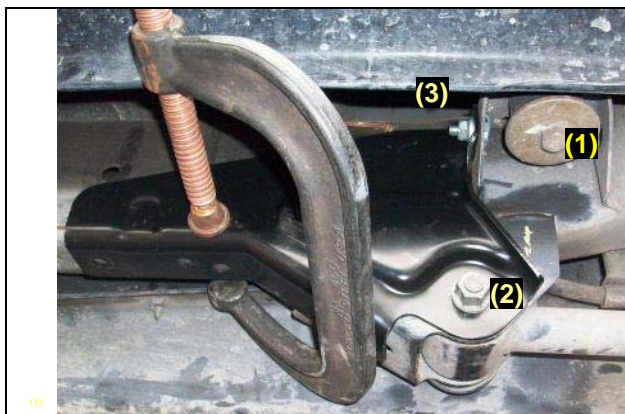

Figure 15: Driver side temporary installation (1998-
1. Remove the Rear Trailing Link Front Mount mounting nut from both driver and passenger side. See Figure 15.
2. Remove lower half of body mount # 4 from both driver and passenger side. See Figures 15 and 16.
6. Temporarily install both Type “A” reinforcement brackets using the original lower link mounting nut, “C” clamp and new stud and nut. See Figures 15 and 16